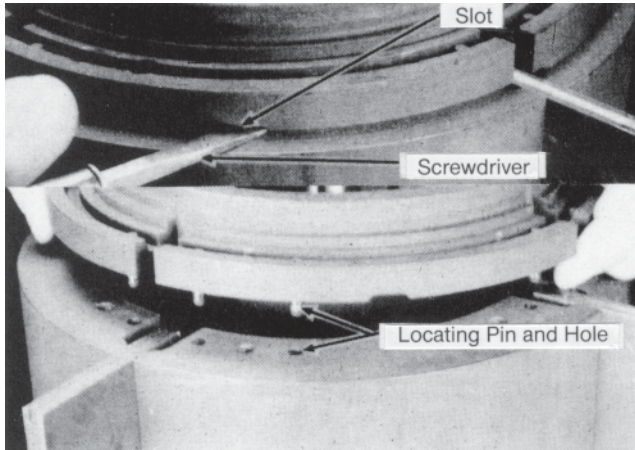

Figure 29 –Removing Cover From Rotor
- To separate the cover and rotor, pry up (to prevent damaging edge of rotor) at the openings provided, Figure 29.